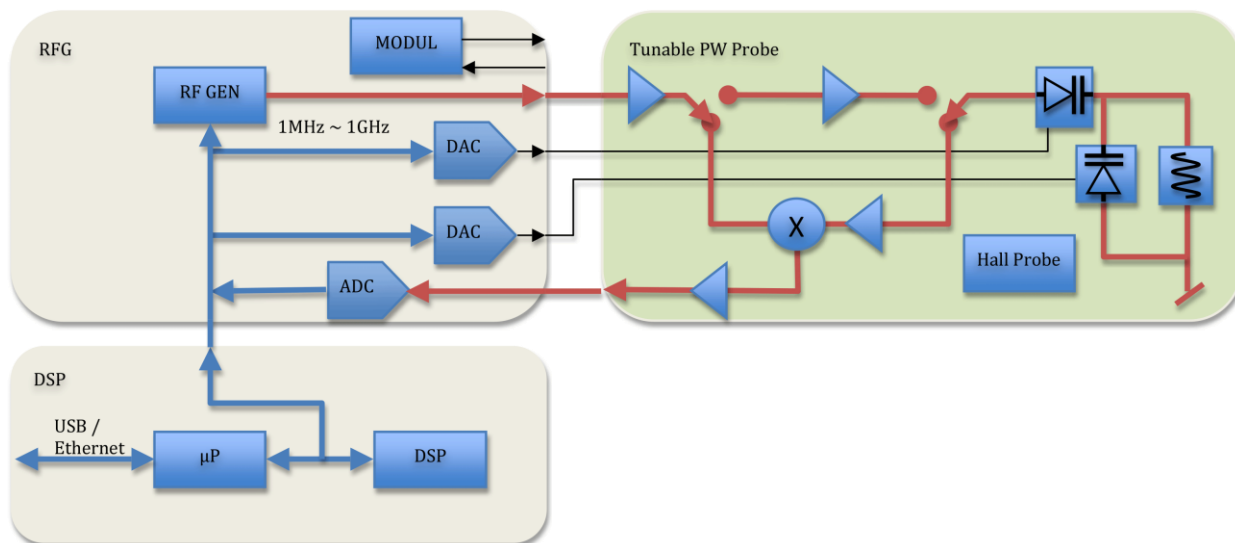

Figure 5. PT2026 functional block diagram.
For almost a decade, Metrolab has been working on a new-generation, “all digital” NMR magnetometer, the PT2026. As we can see from Figure 5, the term “all digital” is to be taken with a grain of salt: “all digital control” is more accurate. Other important technical improvements include:
- **Detection:** support for either continuous-wave (CW, like PT2025) or pulsed-wave (PW, as shown in Figure 5). Improved performance in poor-SNR environments due to sophisticated Digital Signal Processing (DSP).